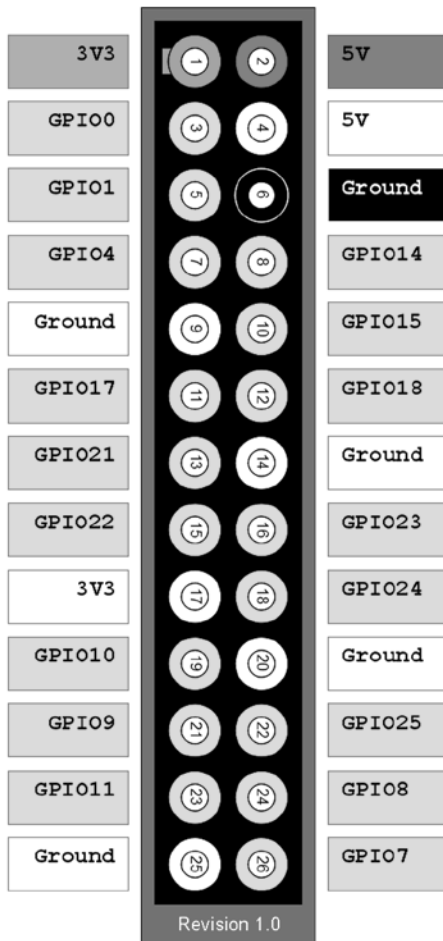

Figure 8-4. The pinout diagram of the Pi's GPIO pins
which lets you identify the pins as they are labeled on a standard pinout diagram (as shown in Figure 8-4).
■ **Note** Keep in mind that with `GPIO.setmode(BOARD)`, when you refer to *pin 11*, you're actually referring to the physical pin #11 (which translates to GPIO17 in the diagram in Figure 8-4), *not* GPIO11, which translates to the physical pin #23.